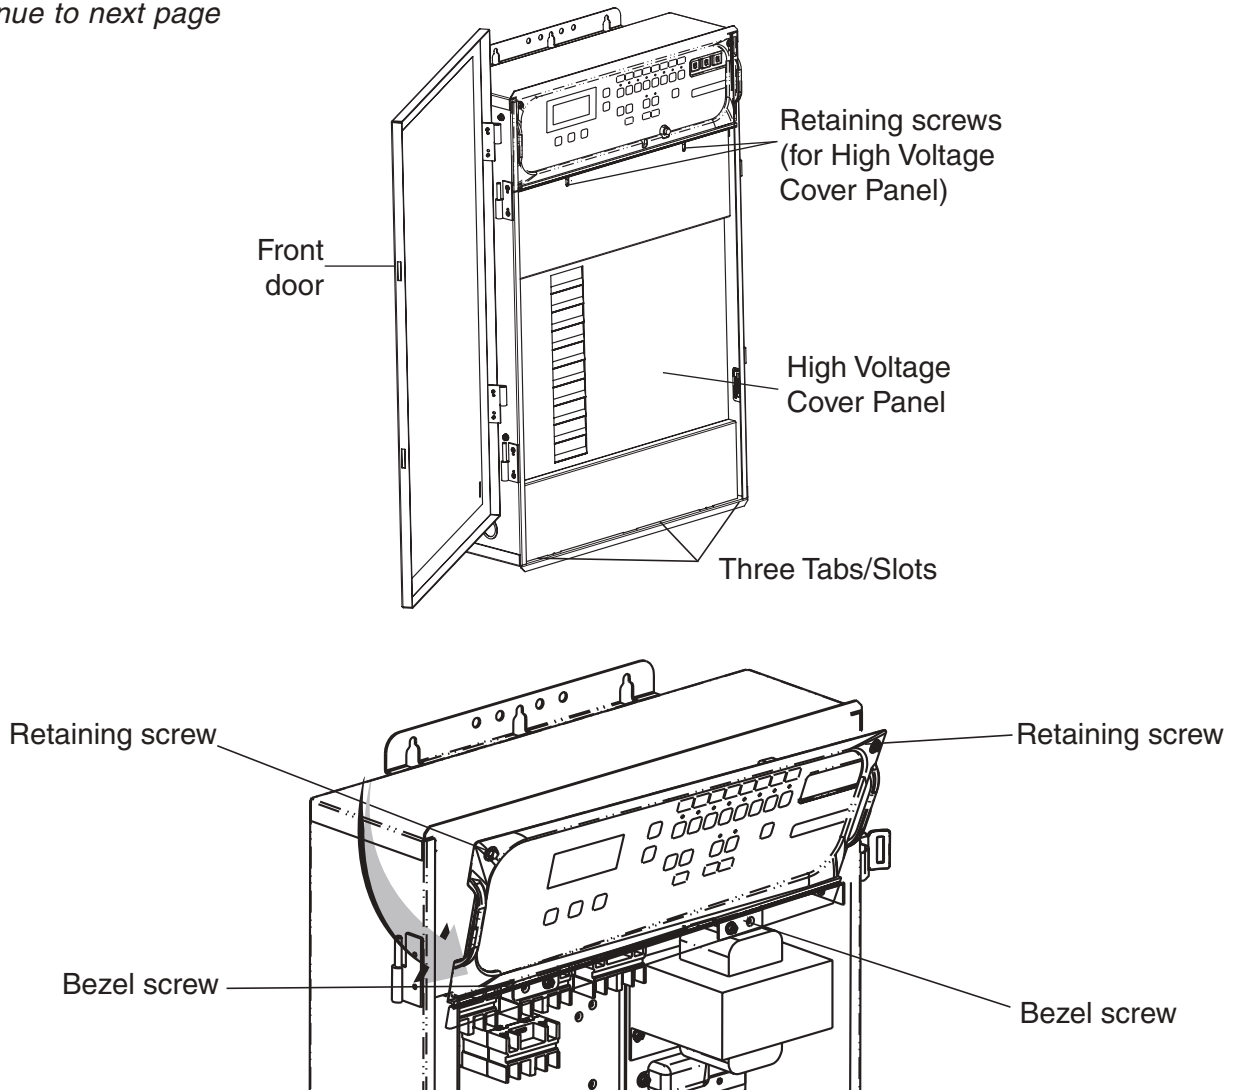

Figure 2. Load Center or Power Center (2003-2012)
7. Remove the two screws securing the outdoor control panel bezel. Remove the outdoor control panel and bezel from the enclosure. See Figure 2 on page 4.
- After all electrical connections have been completed, close the Outdoor Control Panel and tighten the two retaining screws. Reinstall the High Voltage Panel: Insert the panel's three tabs into the lower slots on the enclosure. Secure the panel with the two retaining screws. See Figure 2 on page 4.